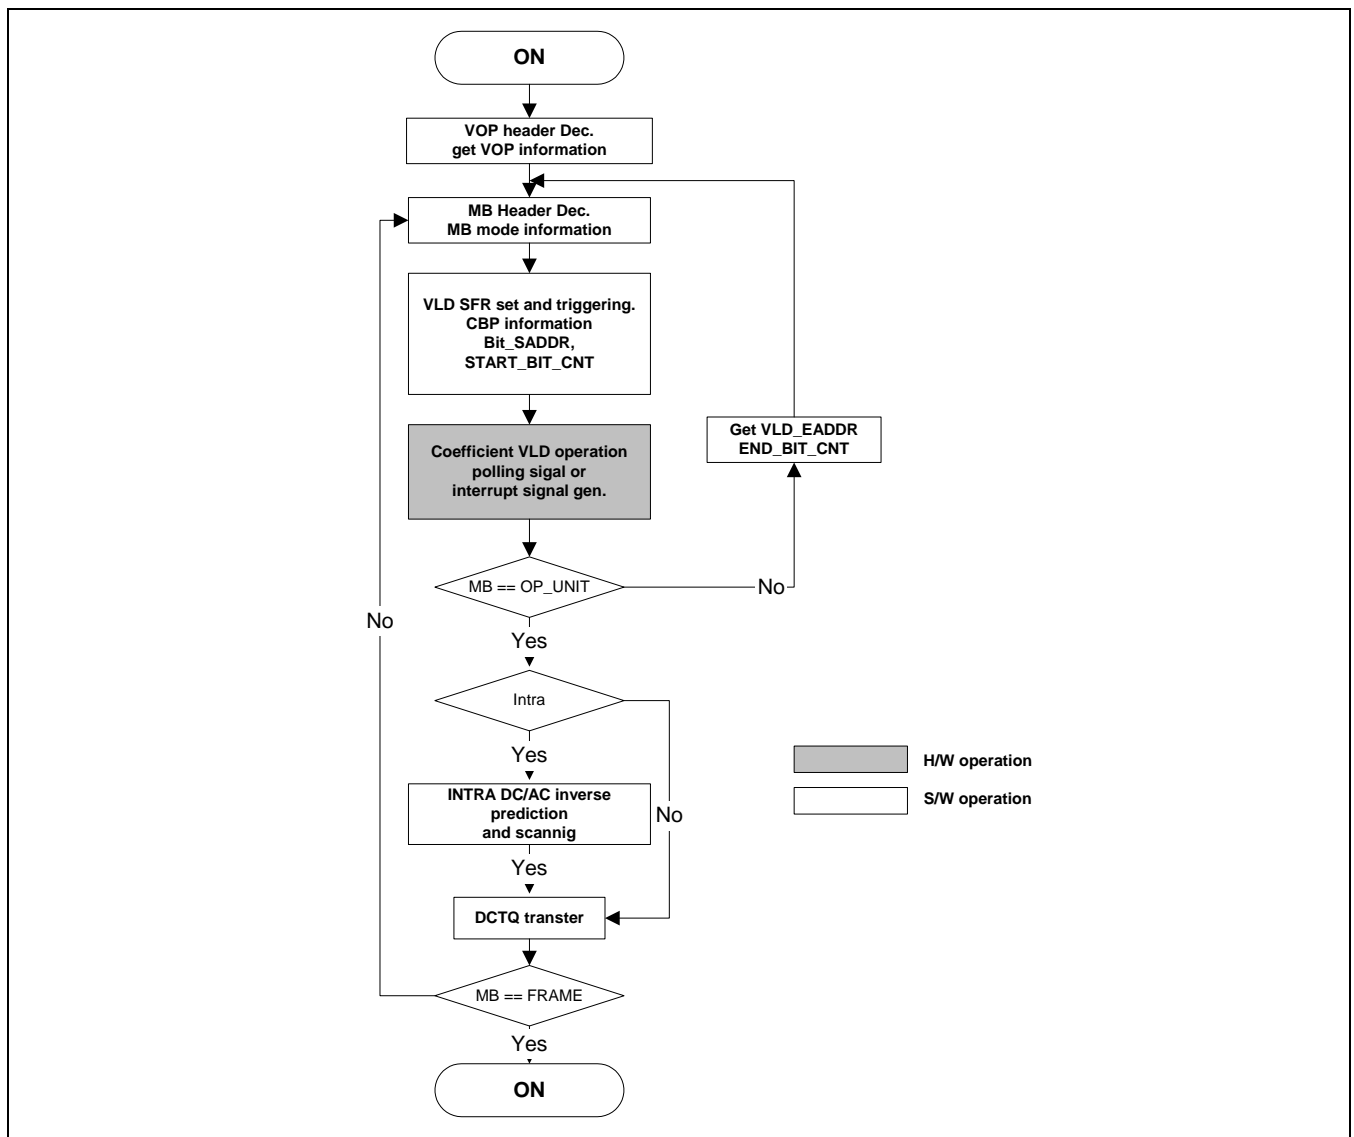

Figure 26-10. VLD Flow Chart and S/W and H/W Processing Partition
- VLD processing explained Figure 26-10 VLD flow chart. VLD flow chart is partitioned S/W processing and H/W processing.